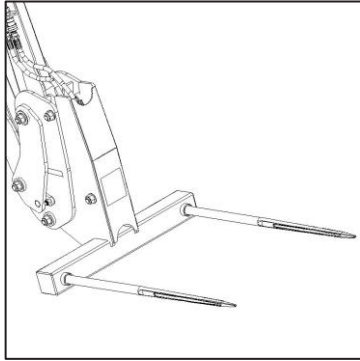

Fig.3
- Both the F750 and F100 ranges of Uniloader® are available with detachable bale fork heads (Fig. 3).